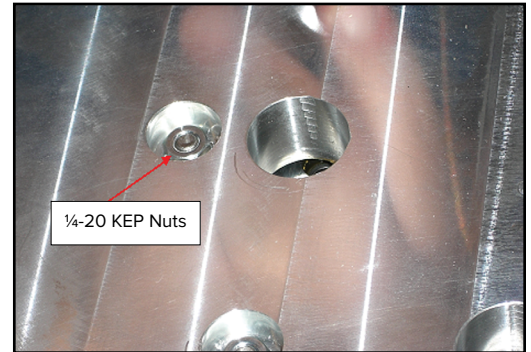

Fig. 13
9. After all 8 screws have been secured, flip over the interface plate and install the (8) ¼-20 Kep nuts on the backs of the screws (Fig. 13).